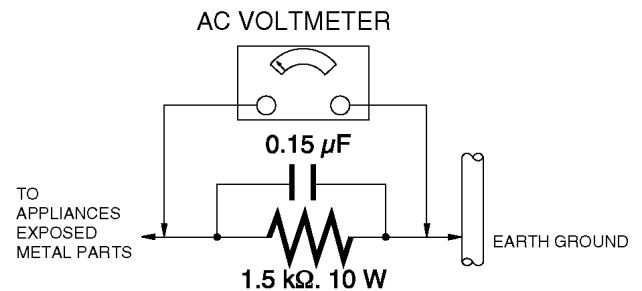

Figure. 1
1.3. Leakage Current Hot Check (See Figure. 1)
2. Connect a $1.5\text{ k}\Omega$, 10 W resistor, in parallel with a $0.15\text{ }\mu\text{F}$ capacitor, between each exposed metallic part on the set and a good earth ground, as shown in Figure. 1.